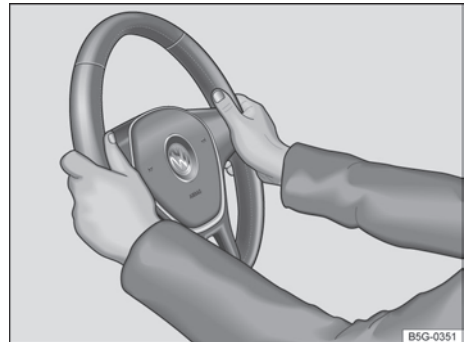

Fig. 64 On the steering wheel: 9 o'clock and 3 o'clock positions.
- Adjust the steering wheel position in order to be able to hold it by its outer rim *in 9 o'clock and 3 o'clock positions* → Fig. 64 with both hands and slightly flexed arms.
- Always firmly push the lever ① upwards by the handle after adjusting, to secure the steering wheel in place.
- While driving, always keep both hands on the rim of the steering wheel, at the *at the 9 o'clock and 3 o'clock positions* → Fig. 64, to reduce the risk of injury in case the driver front airbag is deployed.